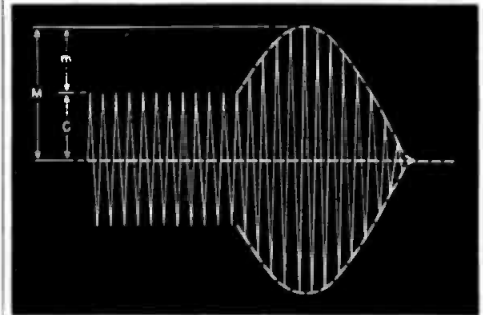

Fig. 2. Modulation depth for 100% modulation, corresponding to pattern shown in Fig. 3C.
Fig. 2 illustrates modulation depth for complete modulation, corresponding to the pattern in Figure 3C. For this condition, the peak modulated amplitude (M) is equal to twice the unmodulated amplitude (C). Peak amplitude of the modulating voltage is represented by (m).
From the foregoing discussion, it is seen that the modulation factor for complete modulation is unity, since (from Fig. 2) M is equal to 2C. It is seen also that for complete modulation, the peak unmodulated carrier voltage must be equal (m = C, or M-C = C). In cases of undermodulation, the factor is some value less than unity because the peak modulating voltage is less than the peak unmodulated carrier voltage. Conversely, in overmodulation, the factor is greater than 1, since the peak modulating voltage is higher than the peak unmodulated carrier voltage.